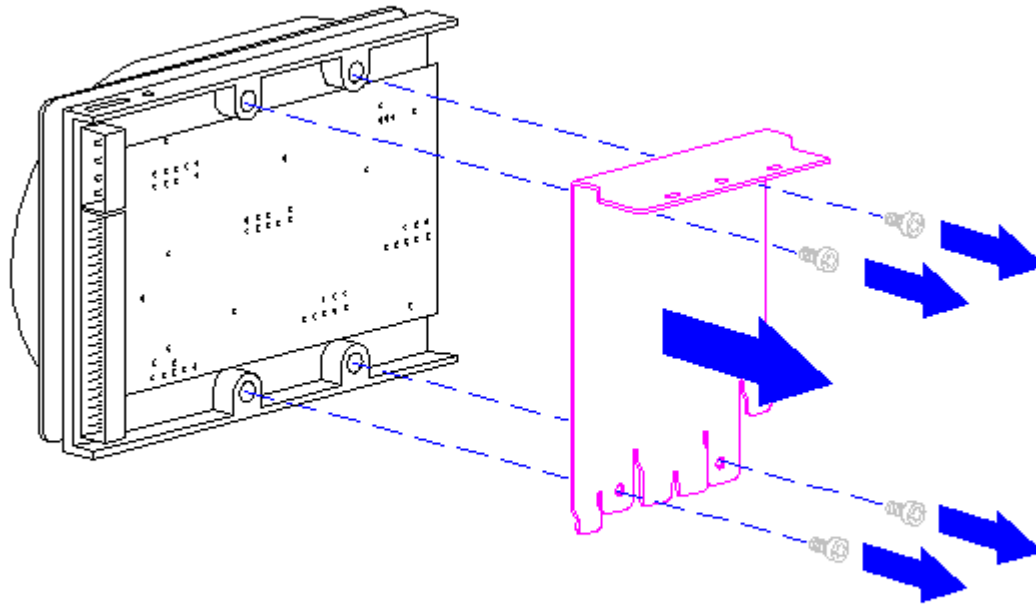

Figure 5-22. Removing the Hard Drive Bracket
5. Remove the four screws securing the bracket to the hard drive and remove the bracket (Figure 5-22). Retain the bracket and screws for use on the replacement hard drive.